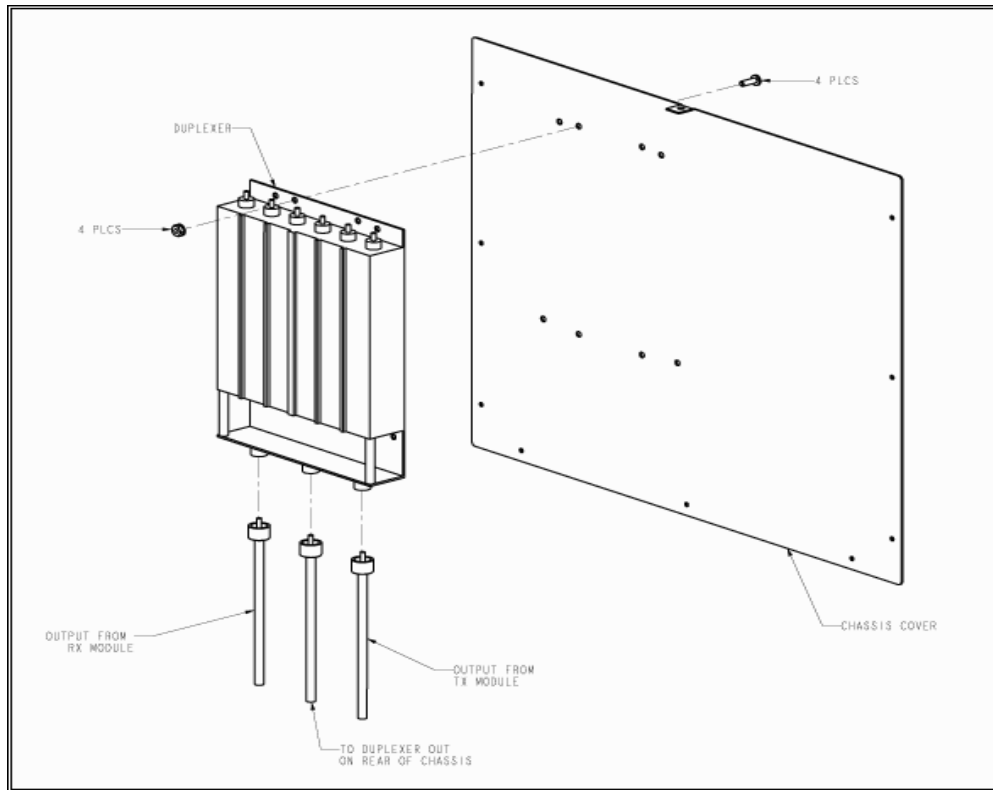

Figure 11-1: Duplexer Installation – UHF Version Shown
- 6) Pick up the chassis top. Using the four screws and nuts provided in the duplexer installation kit, attach the duplexer to the chassis top as shown in *Figure 11-1* on the next page. Make sure the nuts are located on the duplexer side of the chassis and the screw heads are located on the topside of the chassis top.
- 8) Referencing *Figure 11-1*, connect the RX Module cable to the Receiver input and TX module cable to the transmitter input of the duplexer.